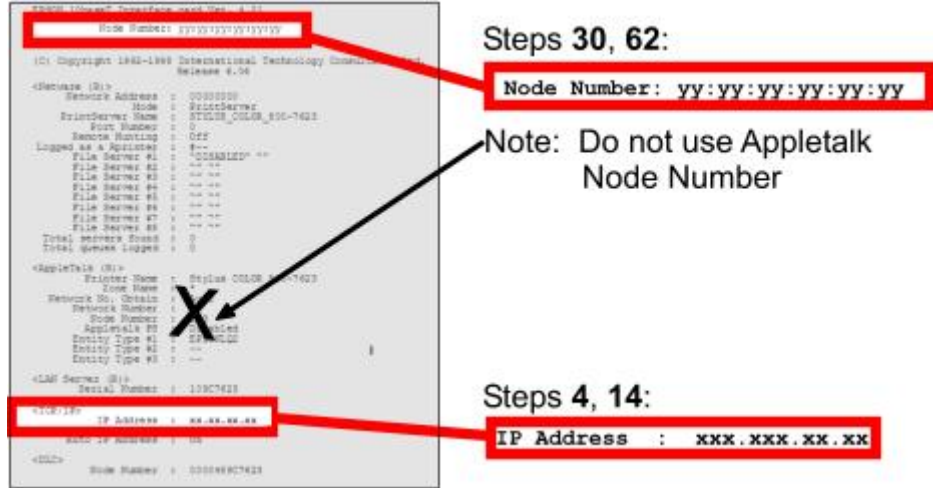

Figure 3.- Network Configuration Page (Example).
4. Circle IP address on Network Configuration Page. Refer to Figure 3.